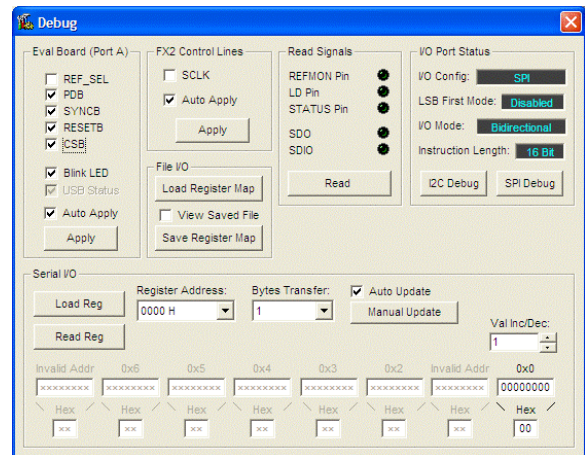
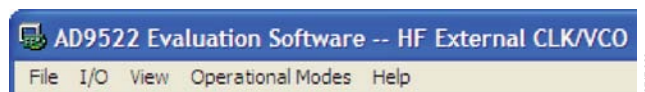
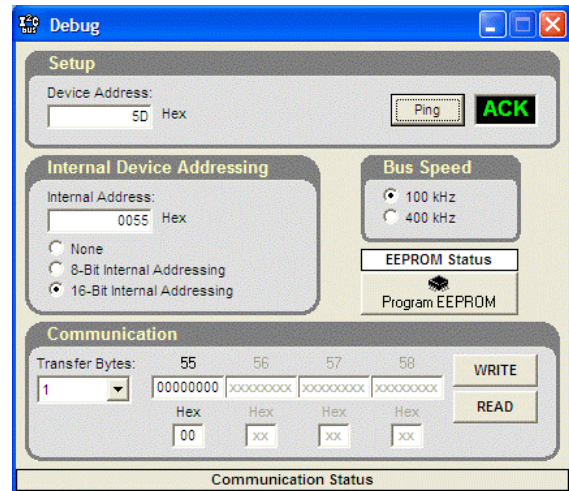

Figure 23. AD9522 Debug Window
Figure 24. Menu Bar
Figure 29. AD9522 Evaluation Software I²C Debug Window
The debug window shown in Figure 23 is accessed by clicking **Debug** from the **View** menu on the main window (see Figure 24).
7. From the **View** menu on the main window (see Figure 24), click **Debug Window**. Click the **I2C Debug** button. The window shown in Figure 29 appears.
8. Enter the I²C address set by Jumper S5 and Jumper S6 on the AD9522 evaluation board, and click **Ping**. The user should see a green **ACK** message, as shown in Figure 29. Repeat this step for the I²C address of the target AD9522. If **ACK** is returned for both addresses, the remote AD9522 is ready to be programmed. If the ping test fails, double-check the cabling between the boards, as well as the I²C address of the target AD9522. The user should ensure that the I²C address of the AD9522 on the evaluation board is different from the target AD9522. The user should also disconnect the jumper cable and make sure that I²C mode is working properly on the AD9522 evaluation board.